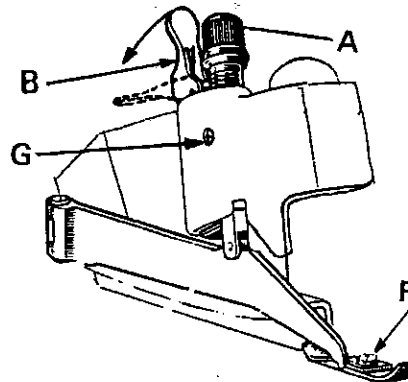

fig. 19
4. Lower lever B as far as it will go (**fig. 19**).
c) Positioning and adjustment of presserfoot (**fig. 19**).